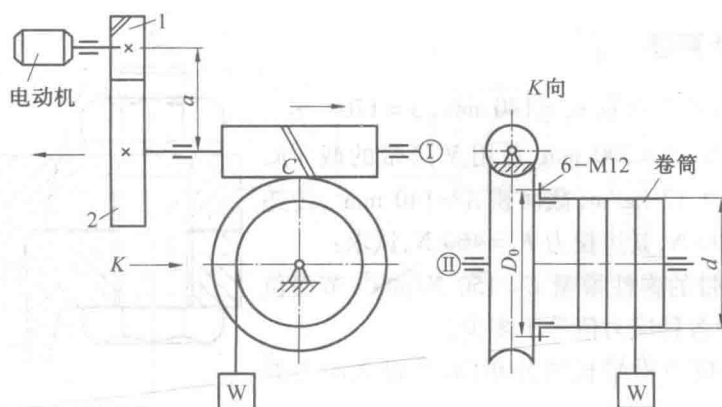

图 1
1. 图 1 为一提升机,已知:卷筒直径 $D = 200\ \text{mm}$, $z_1 = 20$, $z_2 = 60$, $z_3 = 1$, $z_4 = 60$, $q = 13$,重物 $G = 20\ \text{kN}$,蜗杆为右旋,蜗轮直径 $d_1 = 240\ \text{mm}$, $\alpha = 20^\circ$,接合面当量摩擦系数 $f_v = 0.060$,齿轮传动效率 $\eta_1 = 0.95$,轴承效率 $\eta_2 = 0.98$,滚筒效率 $\eta_3 = 0.95$ 。试求: